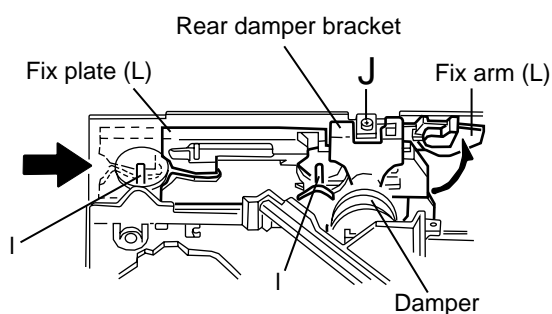

Fig.8
2. Raise the both sides fix arms and move the fix plates in the direction of the arrow to place the four shafts I as shown in Fig.8 and 9.